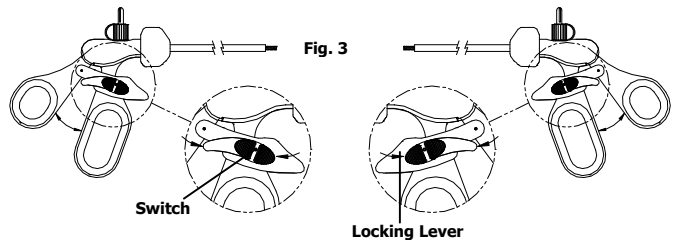

Fig. 3
1. Push switch (see fig. 3) forward in order to engage the ratchet mechanism.